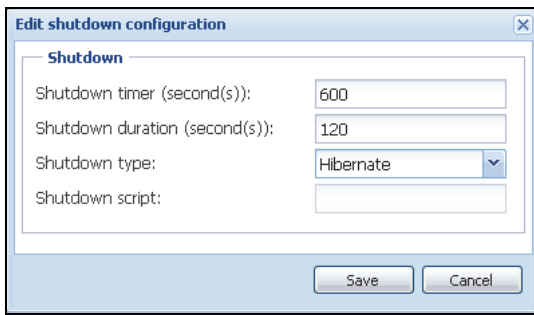

Figure 69. Edit Shutdown Configuration Dialog Box
- Figure 69 illustrates the Dell ULNM default configuration available from **Settings > Shutdown > Edit Shutdown Configuration**.